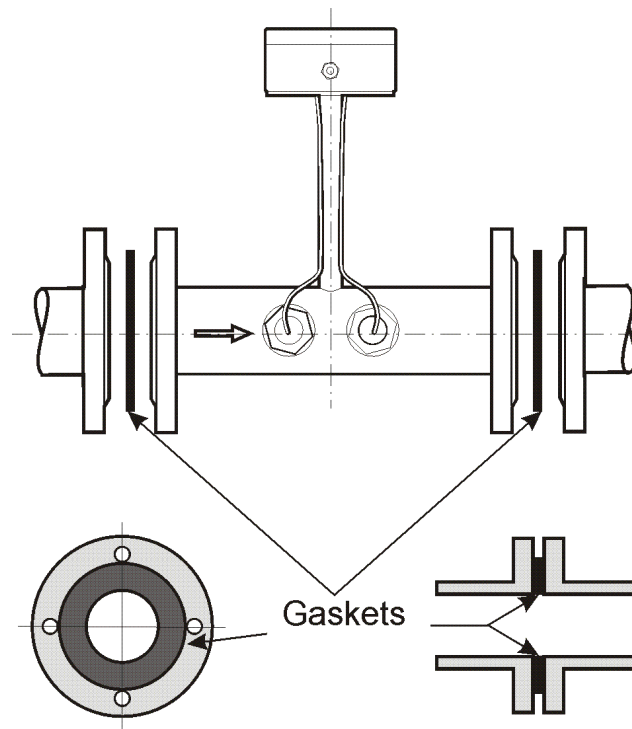

Fig. 2.2 Gasket fitting
- The internal diameters of the gaskets should have the same size as the pipe (fig. 2.2).